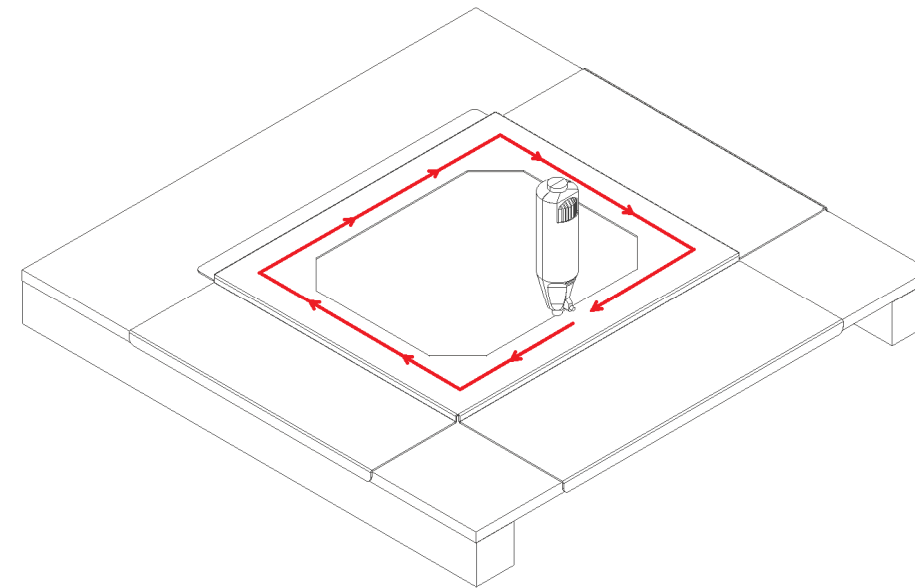

Figure 4
Step 4 - Place one hand on the edge of the template over one of the spacers, and press firmly against the tile to prevent slippage during the cutting operation. Use the other hand to route the opening starting slightly inside the template opening, so that the bit will not cut the template. Move the router so the shank of the router bit is pressed lightly against the inside edge of the template and move the router around the entire inner circumference of the template's opening (Ref. figure 4).